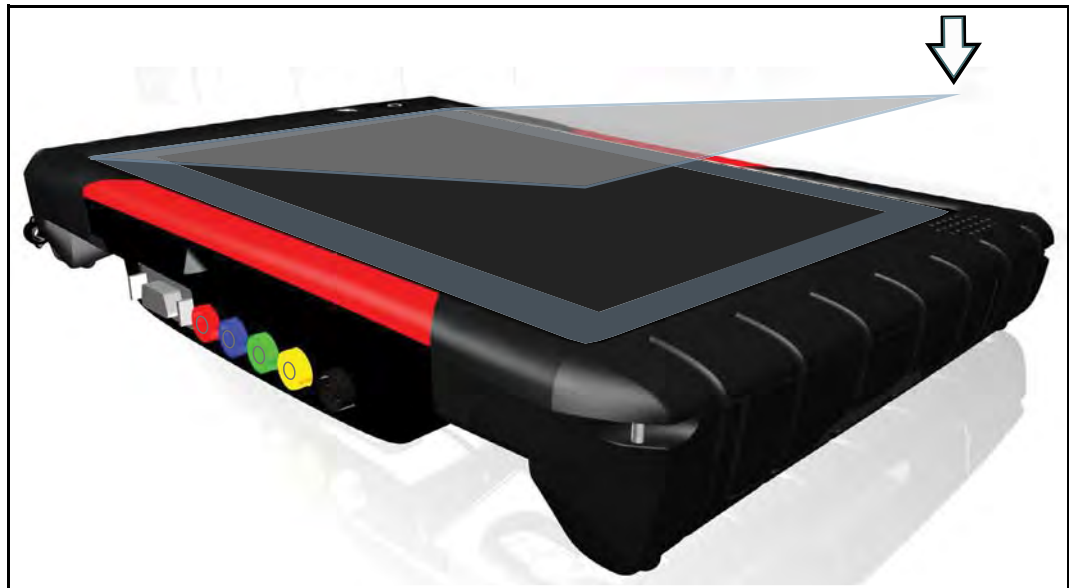

Figure 14-6
3. Carefully align the edge of the protector with the edge of the screen, and slowly allow the screen protector to lie flat on the screen (Figure 14-6).